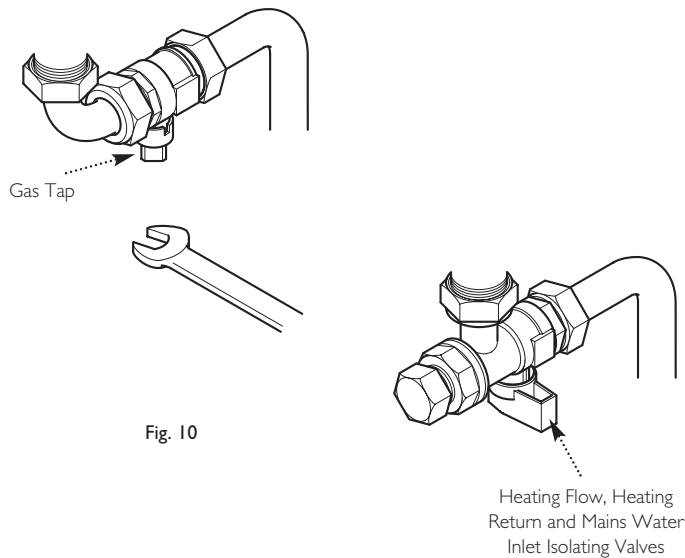

Fig. 10
Turn off the gas supply at the meter and call your gas supplier immediately. It is possible to isolate the boiler at the isolating valve (Fig. 10).
1. Using a suitable open ended spanner, turn the square nut on the gas tap through 90° ($\frac{1}{4}$ turn) to isolate the gas supply at the boiler (Fig. 10).
2. The water isolating valves are positioned under the boiler and can be closed by turning their taps to the right towards the wall (Fig. 10).